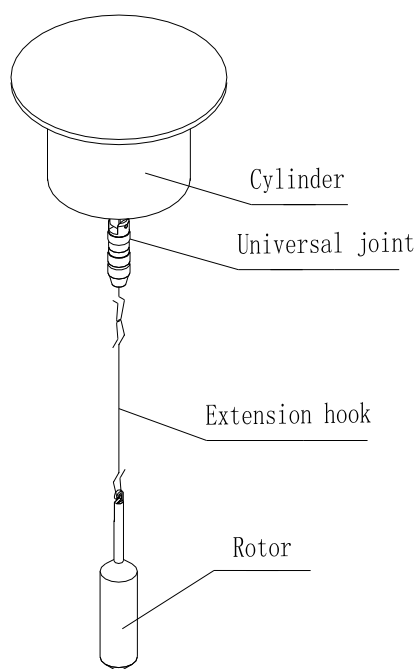

Fig. 15
(4) Take out the plastic cap on the shaft under the main machine of the viscometer, screw the extension hook into the universal joint **clockwise (counter-thread)**, and select and hook a rotor according to the sample viscosity range. See details in Fig. 15.